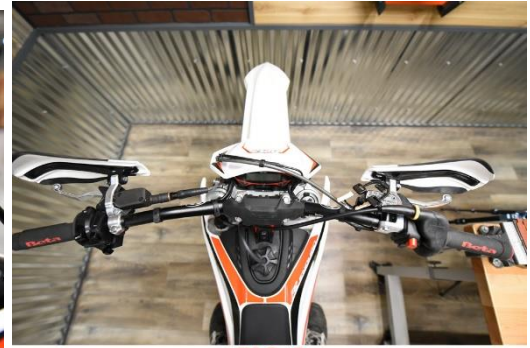

FIG 6
6. Have fun and enjoy your next ride! (FIG 6)